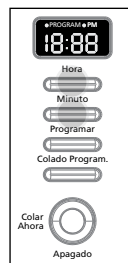

Figure 1
2. Press and hold the HOUR and MINUTE buttons until you reach the current time. The PM indicator will light at the top of the display when a PM hour is shown (Figure 1).